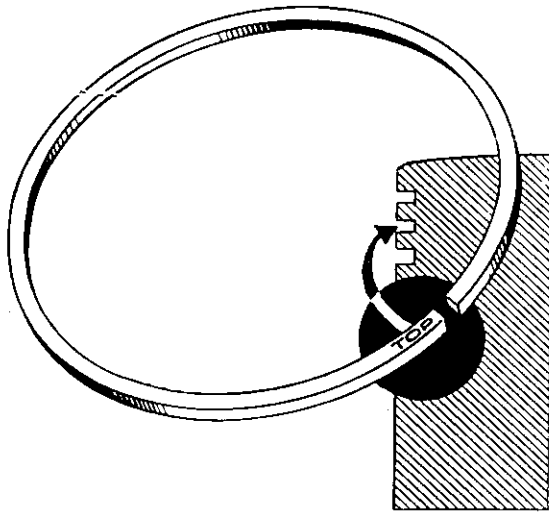

Fig. 17. Taper Faced Piston Ring Position.
- (1) Fit the scraper ring first.
- (2) The lower compression ring (centre ring) has a  $1^\circ$  taper and must be fitted with the tapered face in the correct position. To assist correct fitting, this ring has one face plainly marked "TOP" (see Fig. 17) and this should be fitted facing the top of the piston.
- (3) Fit the top compression ring.
- (4) Fit one circlip in the gudgeon pin boss.
- (5) Oil the gudgeon pin and enter in the opposite boss until it just protrudes inside the piston. The piston is now ready for assembly to the connecting rods.